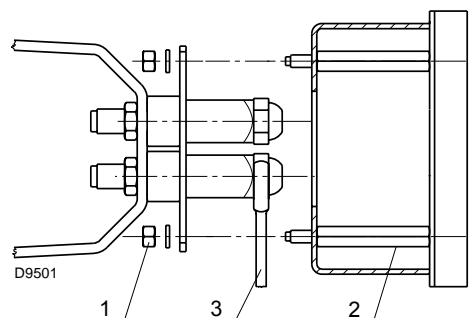

Fig. 14
- remove the nuts 1) (Fig. 14) and the diffuser disc assembly 2).